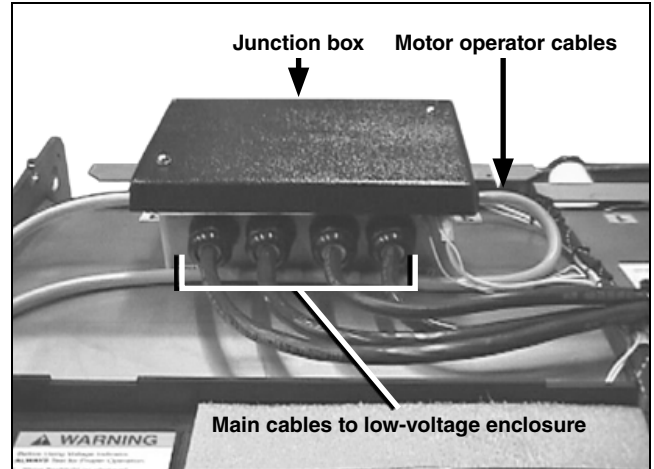

Figure 25. The junction box wiring.
- STEP 1.** Uncoil the junction box main cables that will be routed to the low-voltage compartment. See Figure 25. These cables have low-voltage connectors on their ends.